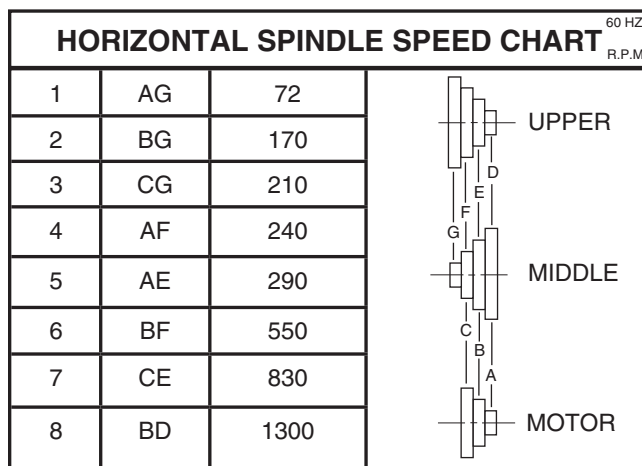

Figure 16. Horizontal spindle speed chart.
1. Examine the *Horizontal Spindle Speed Chart* (**Figure 16** or on the access cover at the rear of the mill) to find the closest match to your needed RPM.